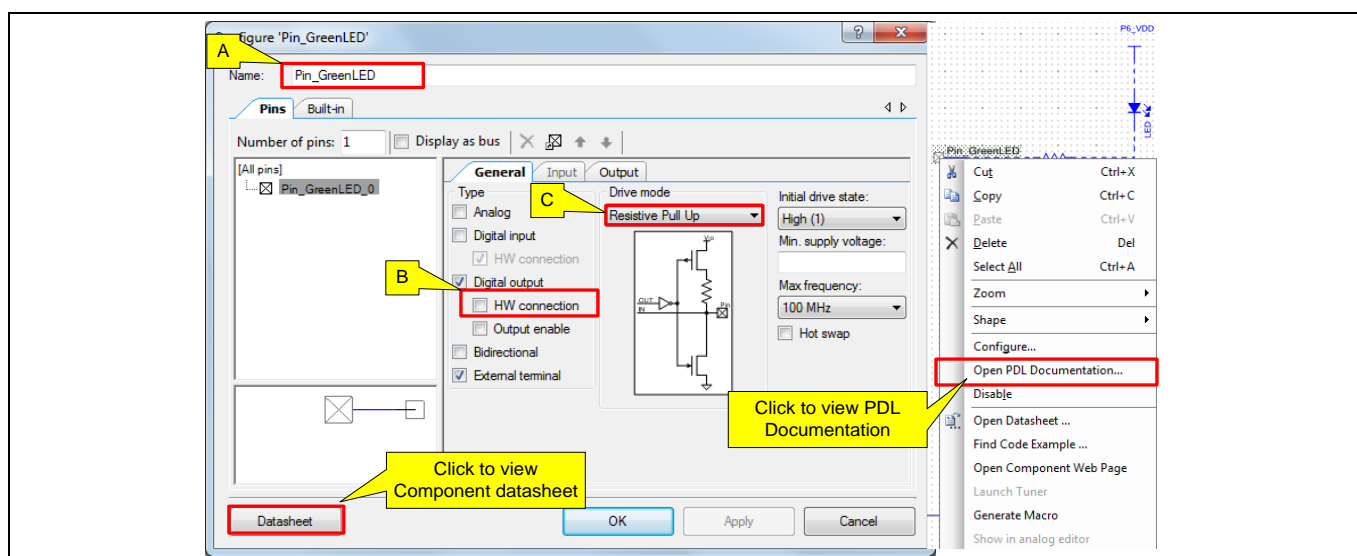

Figure 15 Configuring an Output Pin Component
The output pin drives the LED. The LED on the PSoC 6 Wi-Fi-BT Pioneer Kit is active LOW; that is, the logic HIGH pin-drive state turns OFF the LED, and the logic LOW pin-drive state turns it ON. **Figure 15** shows the configuration.
2. You can open the API reference document of the associated PDL driver of a Component by right-clicking the Component and clicking on **Open PDL Documentation...** link. See Figure 15.